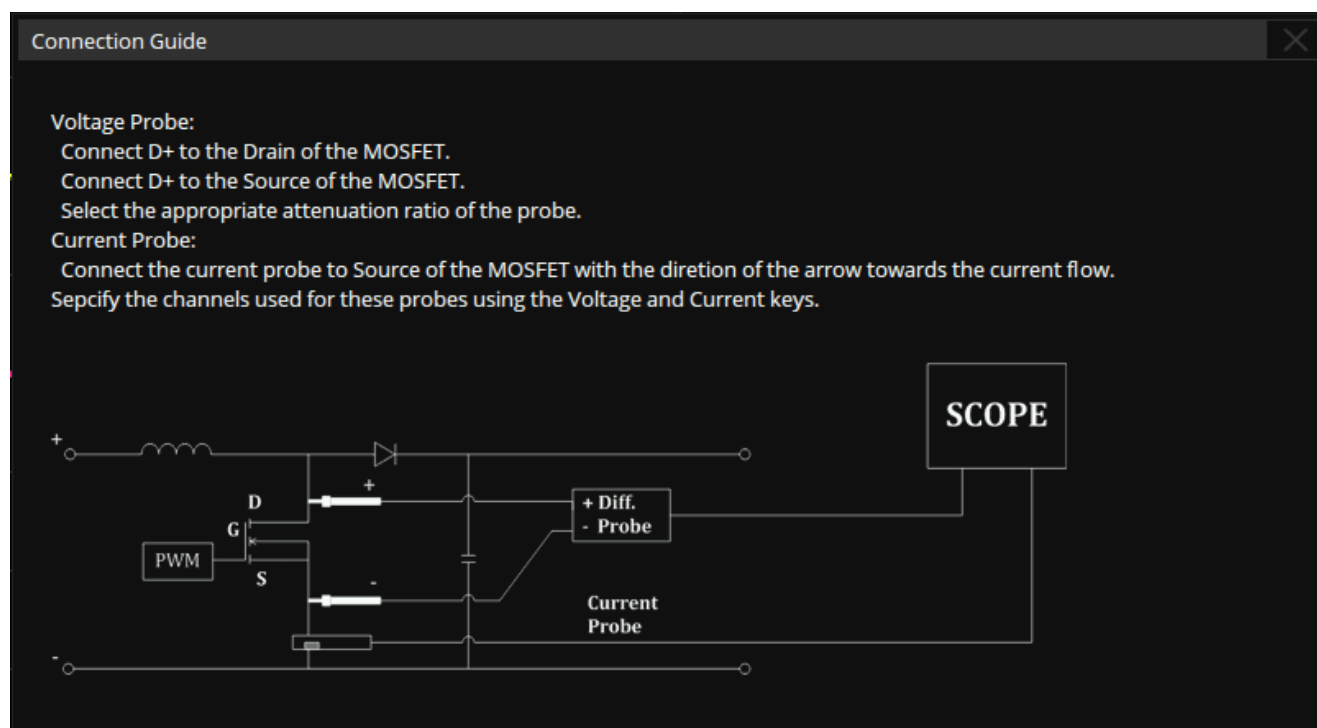

Figure 19.12 Connection Guide Switching Loss
5. Touch **Connection Guide** to display a diagram illustrating the procedure setup. See figure 19.12